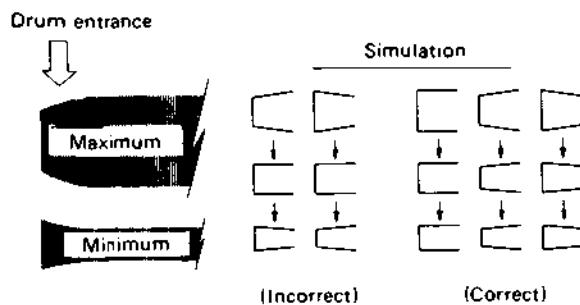

Fig. 1-6-2 Drum entrance
- If the variation is not parallel at the rising portion (drum entrance) of the FM envelope, turn the supply guide roller so that the rising portion of the envelope becomes nearly flat, as shown in Fig. 1-6-2.